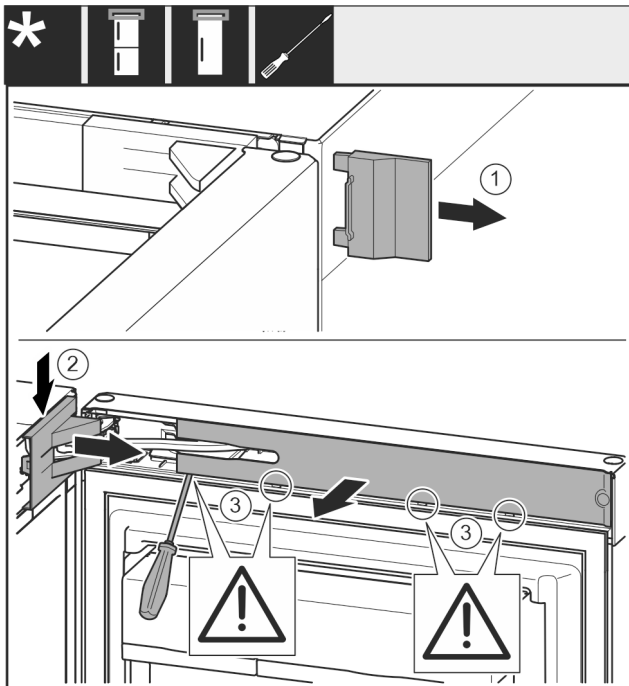

Fig. 9
- ▶ Remove cover Fig. 9 (1).
- ▶ Disengage and loosen the swap bearing block cover Fig. 9 (2).
- ▶ Remove the swap bearing block cover Fig. 9 (2).
- ▶ Use a slotted screwdriver to unlatch the trim Fig. 9 (3) and swing it to the side.